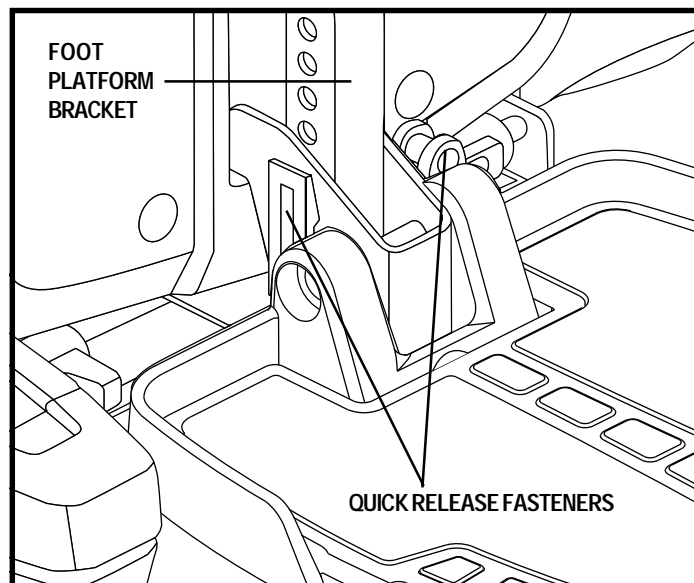
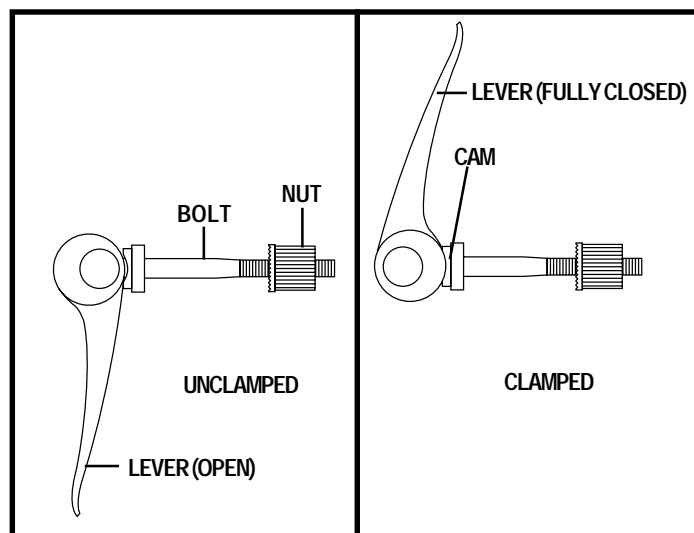

Figure 19. Foot Platform Adjustment
Figure 20. Quick Release Fastener Operation
1. Remove the quick release fasteners from the foot platform bracket. See figure 19.
Quick Release Fasteners: The foot platform is attached to the power base with two quick release fasteners. See figure 19. Each quick release fastener consists of a bolt, a lever, and a nut. See figure 20. The lever has a cam on the end that allows it to clamp into place. The quick release fastener has two states: clamped and unclamped. When the lever is open, the quick release fastener is unclamped. When the lever is closed, the quick release fastener is clamped.